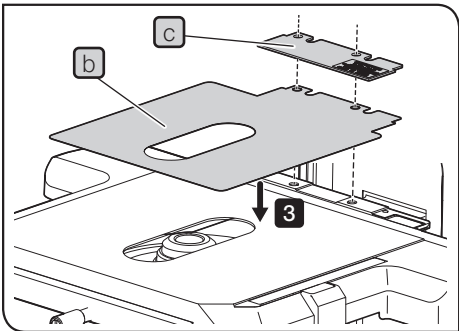

Fig.43
- 2 Plug the power cord plug **c** into the wall outlet **d**. (Fig.43)